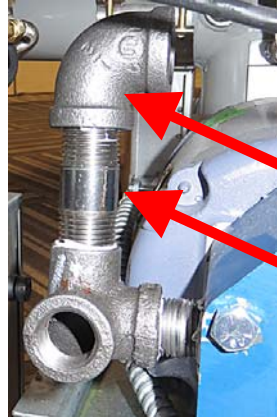

Figure 39
38. Apply Loctite to both ends of the 2" nipple (8130298). Insert the nipple into the top of the elbow, attached to the pump, in previous step (see Figure 39).
39. Attach the 90° elbow (8130062) to the top of the nipple in the previous step. Tighten and orient as shown (see Figure 39).